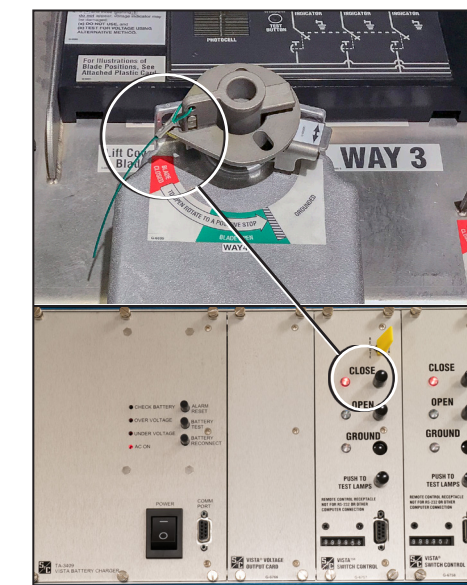

Figure 10. Comparing the position of the motor operator with the position of the indicating lamp. (Closed position is shown.)
STEP 3. Verify the position-indicating lamp on the control board matches the position of its associated motor operator. See Figure 10.